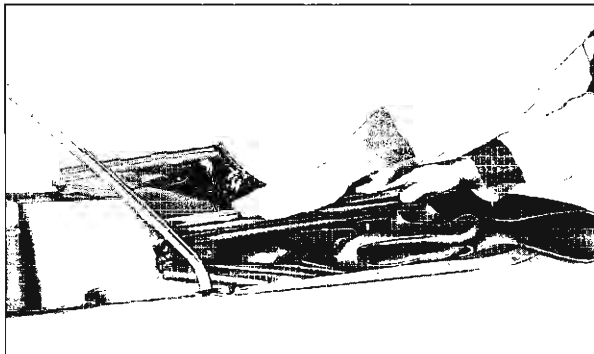

Fig. 21-10 Pressing Down on Side Rail
D. Press down on side rail front section until catch clip snaps onto side rail center section. Repeat operation on opposite side of car (Fig. 21-10).